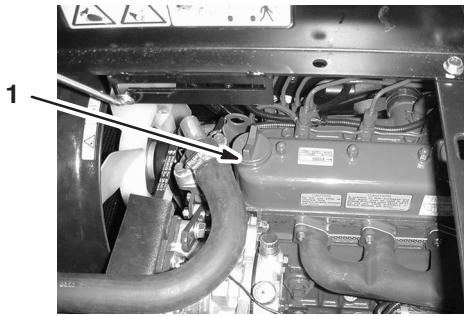

Figure 3
5. If the oil level is low, remove the filler cap from the valve cover (Fig. 3) and pour oil into the opening until the oil level is up to the Full mark on the dipstick.